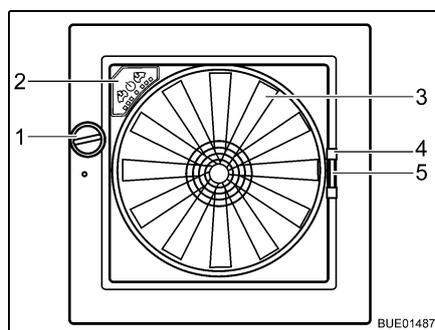

Fig. 119 Omni-Vent skylight
- Opening:** ■ Turn the knob (Fig. 119,1) until the desired opening angle is reached.
- Closing:** ■ Turn the knob (Fig. 119,1) until the skylight is fully closed.
- Closing:** ■ Using the handle (Fig. 119,4) pull the insect screen across to the other side of the frame.
Closing: ■ Press together the handle (Fig. 119,5) of the shade.
Fan If the skylight is open, the interior can be vented and aerated with the 6-speed fan (Fig. 119,3). The fan is operated via the operating panel (Fig. 119,2).